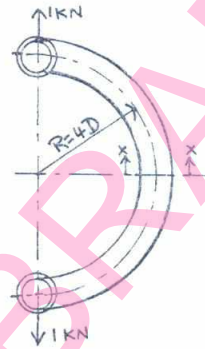

Fig.Q1(a)
- 1 a. Determine the dimensions of the curved bar shown in Fig.Q1(a). Assume $\sigma_{yt} = 400 \text{ MN/m}^2$ and FOS = 3.5. (10 Marks)